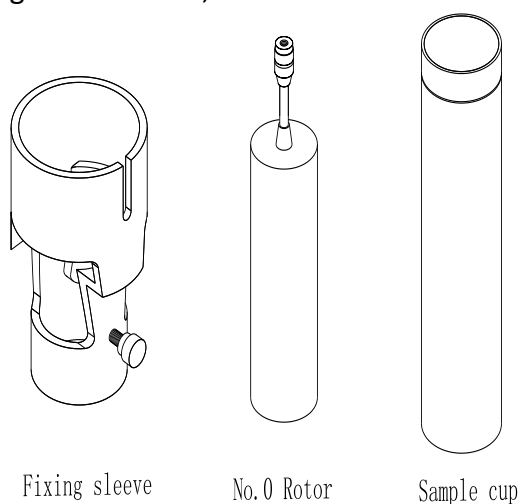

Fig. 4
(1) Rotor #0 consists of a fixing sleeve, rotor #0 and a testing tube, as shown in Fig. 4. This part can be only used in testing with rotor #0, and cannot be used with any other rotor.